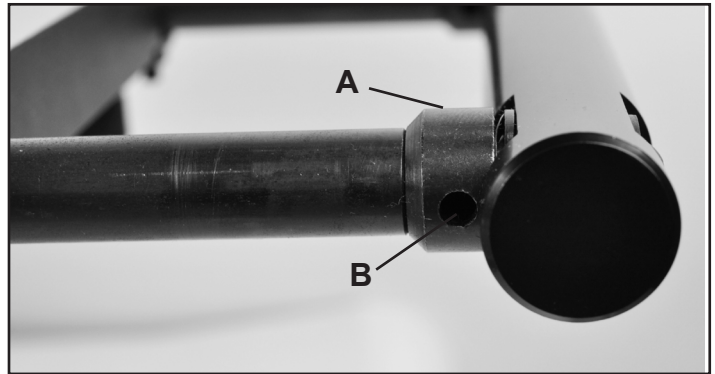

FIG. 31
5. Rotate extension leveling cam (A-Fig.31) by placing a Hex Key in the adjustment hole (B-Fig.31).